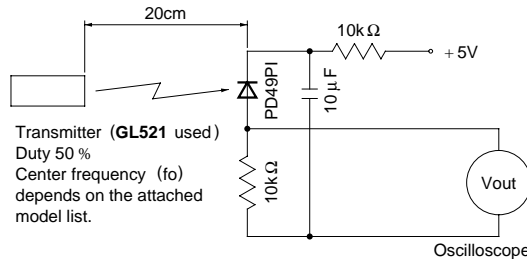
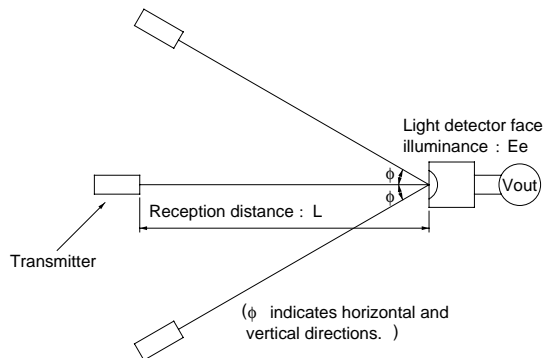

Fig. 1. Transmitter
Fig. 2. Standard optical system
*3 The burst wave as shown in the following figure shall be transmitted by the transmitter shown in Fig. 1.
Using the transmitter shown in Fig. 1, the output signal of the light detecting unit is good enough to meet the following items in the standard optical system in Fig. 2.
When $L=0.2$ to 8m , $E_e < 10\text{ lx}$ and $\phi = 0^\circ$ in Fig. 2, the output signal shall meet the electrical characteristics in the attached list.
When $L=0.2$ to 6m , $E_e < 10\text{ lx}$ and $\phi \leq 30^\circ$ in Fig. 2, the output signal shall meet the electrical characteristics in the attached list.
When $L=0.2$ to 4m , $E_e \leq 300\text{ lx}$ and $\phi = 0^\circ$ in Fig. 2, the output signal shall meet the electrical characteristics in the attached list.